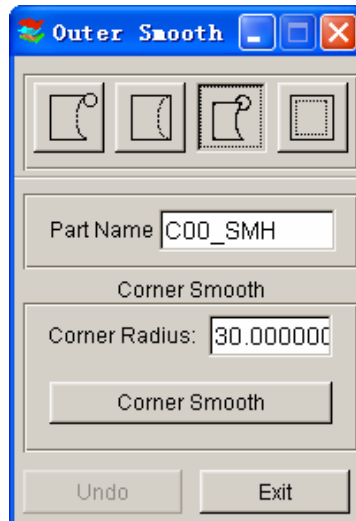

Figure 6.1.37 Corner Smooth
When this function is selected, the program displays a window as shown in Figure 6.1.37. The default corner radius is 30 as displayed in the CORNER RADIUS window.
4. When the morphed boundary is accepted, select **FILL BOUNDARY** to generate the mesh between the original boundary and the extension boundary. See the right picture in Figure 6.1.37 for the filled mesh.